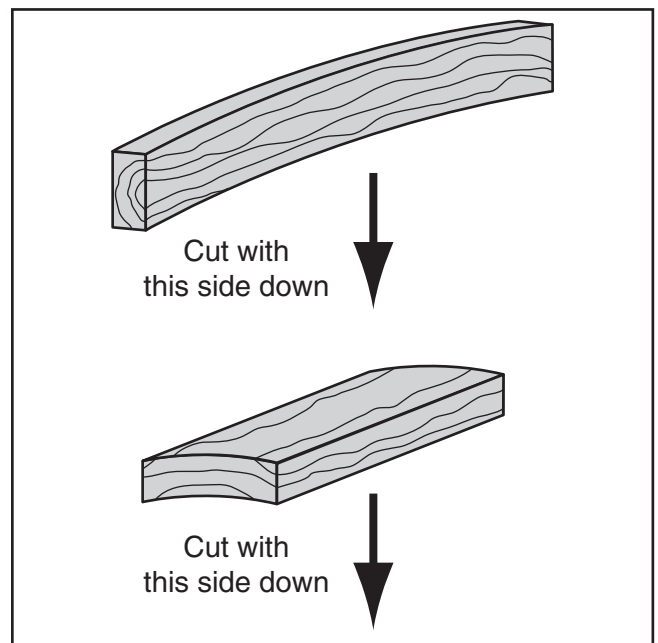

Figure 68. Cutting wood with minor warping.
- **Minor Warping:** Workpieces with slight cupping can be safely supported if the cupped side faces the table or fence, as shown in **Figure 68**. On the contrary, a workpiece supported on the bowed side will rock during a cut, leading to loss of control.